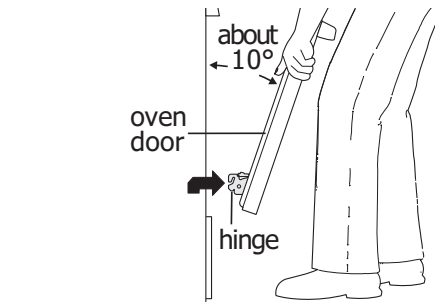
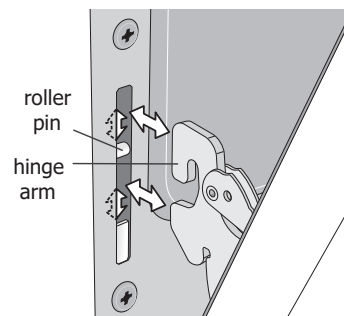

Figure 45: Holding door for removal
Figure 46: Replacement and location of hinge arm and roller pin
3. Firmly grasp both sides of oven door along the door sides. Do not use the oven door handle (See Figure 45).
4. Close the door to approximately 10 degrees from the door frame (See Figure 45).
5. Lift the oven door hinge arms over the roller pins located on each side of the oven frame (See Figure 46).
1. Firmly grasp both sides of oven door along the door sides. Do not use the oven door handle (See Figure 45).
2. Holding the oven door at the same angle as the removal position, seat the hook of the hinge arm over the roller pins located on each side of the oven door frame (See Figure 45 and Figure 46). The hook of the hinge arms must be fully seated onto the roller pins.